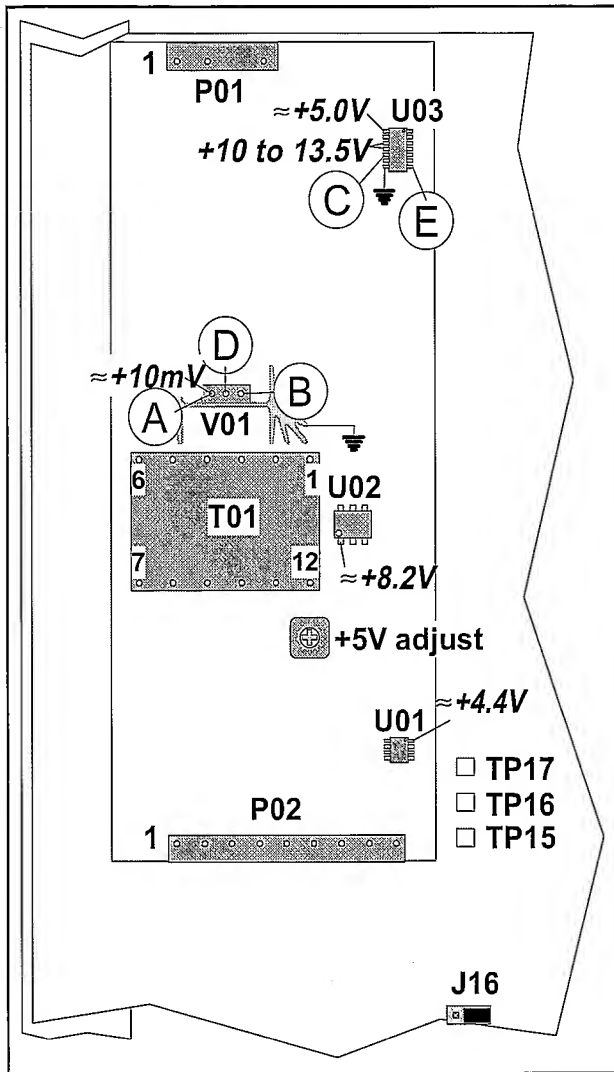
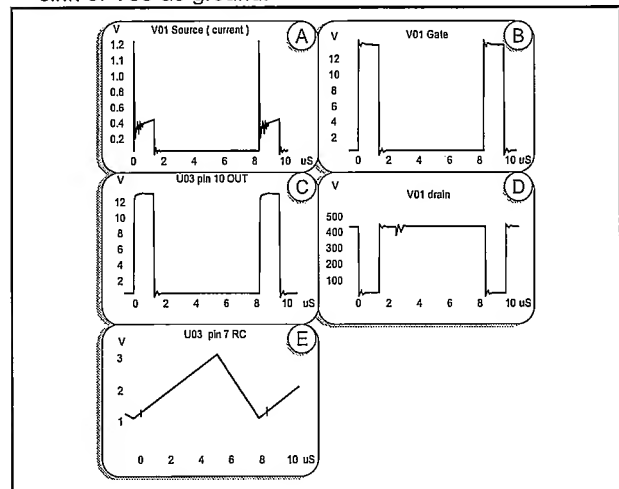

Figure 5-7 Test points and voltages for the power supply.
Figure 5-8 Typical curves of the power supply.
- Disconnect L39 and L40 and check the resistance between pin 1 and 4 on the transformer T1, see Figure 5-7. If the DMM show a short circuit the fault is probably a broken transistor V55. Put L39 and L40 back in position.
- Check the curveforms according to Figure 5-8 and Figure 5-7 to verify the primary circuits. Use the heat-sink of V55 as ground.